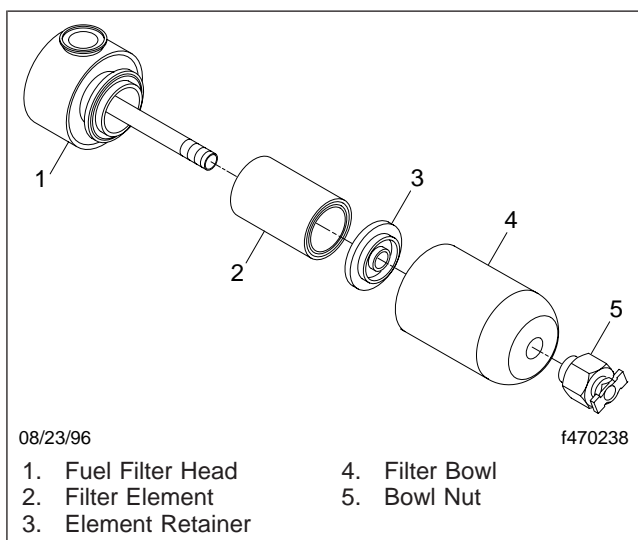

Fig. 2, CNG Low-Pressure Fuel Filter Assembly
3. After the system has been vented, remove the filter bowl. See Fig. 2. Using a 26-mm wrench, remove the bowl nut. Then remove the bowl, the element retainer, and the filter element.